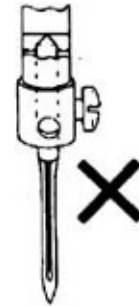

Fig.13
12. How to attach a needle (Fig.13):